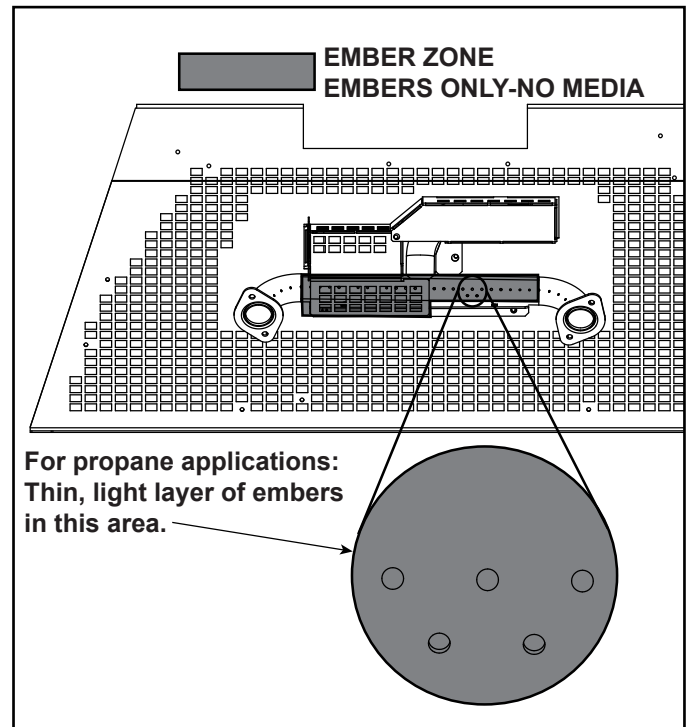

Figure 19 Ember Zone
- Place dime-size embers in the ember zone as shown in Figure 19. The embers must be placed loosely over the port holes and pilot shield. Do not press embers down or into the holes. Create a single layer, no more than 1/4 inch thick.
NOTICE: For Propane applications, embers must be applied in a thin, light layer in the portion of the zone indicated in Figure 19.